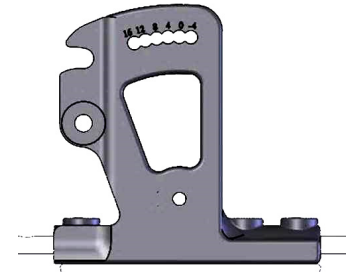

Figure 4.14
4.6.3 Adjust the backrest forward or backward to the position as desired. The scale showing the backrest angle is located on the backrest bracket. (See Figure 4.14)